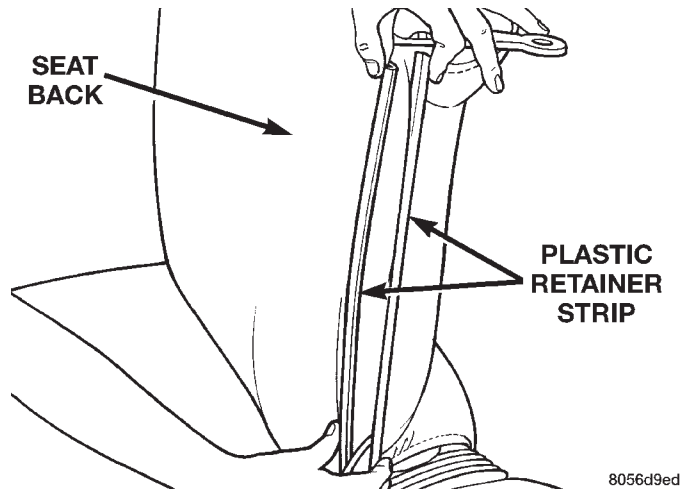

Fig. 8 Seat Cover Retainer Strip
(6) Separate plastic retainer strip at bottom of seat back (Fig. 8).